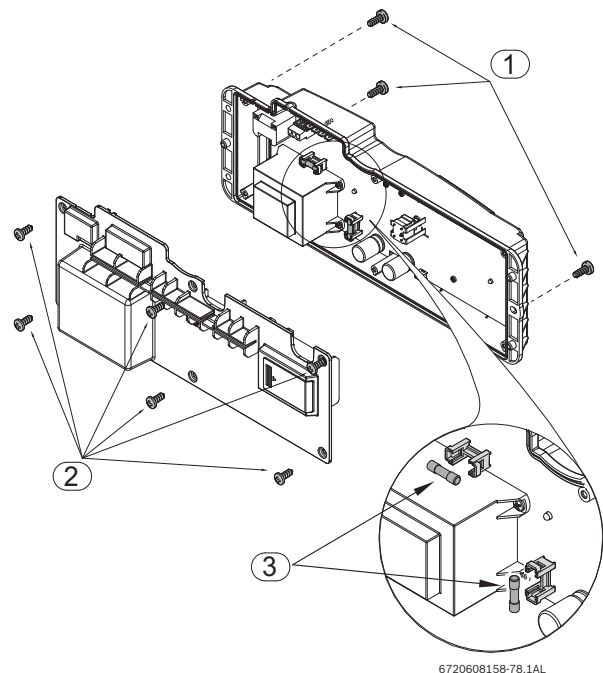

Fig. 39 Location of fuses
- Pull control unit free to access and remove the six screws from the back cover of the control unit, see Fig. 39, pos. 2.
- Check the fuses in the printed circuit board, see Fig. 39, pos. 3.